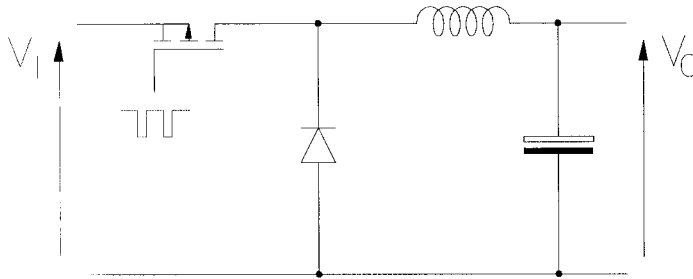

Figure 2
- (a) Derive an equation for the ratio of output voltage to input voltage for the step-down switch-mode power supply (SMPS) shown in figure 2 for continuous conduction mode. State any assumptions that are made in the derivation.